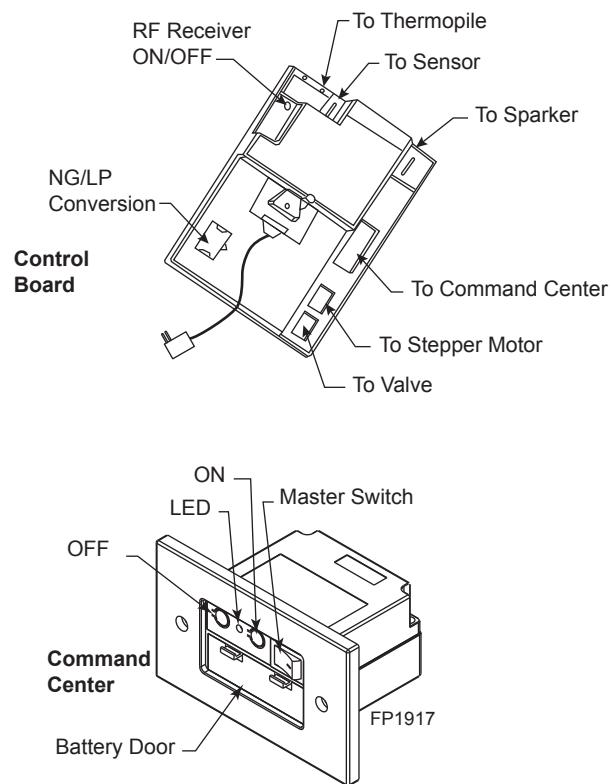

Figure 60 -
1. The RF receiver button located on the Control Board must be in the on position before the learn function can begin. Use paper clip to depress button. One beep for RF receiver ON or two beeps for RF receiver OFF will be given as confirmation. Refer to Figure 60 for location.